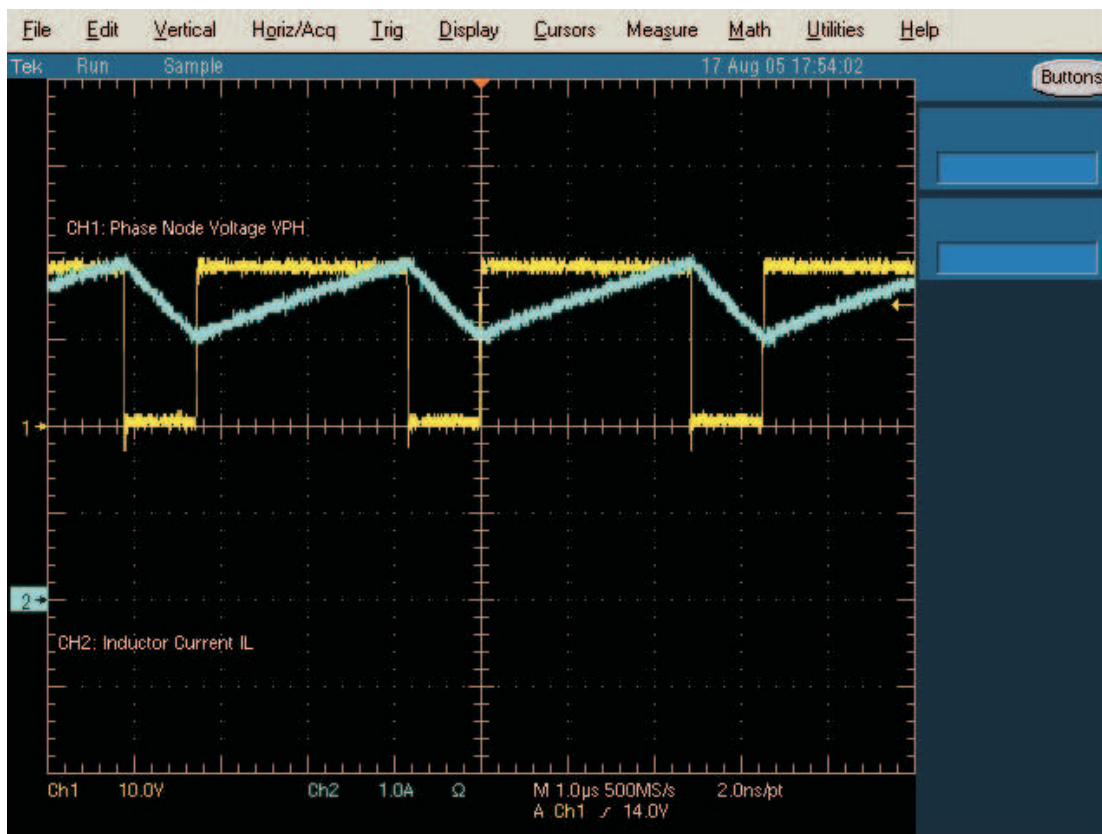

Figure 8. The Waveforms at $I_{bat} = 4000 \text{ mA}$
- c. Observe \rightarrow The inductor current waveform looks like that shown in Figure 8.